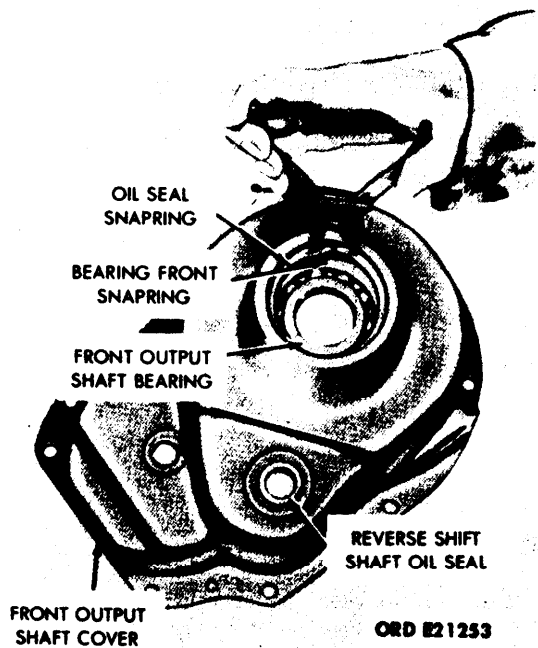

Figure 4-43. Front Output Shaft Cover — Disassembly.
(1) Remove the output shaft oil seal snapping (fig. 4-43). Discard the oil seal. To remove the seal from the cover, place in a press and exert pressure upon the front bearing thrust washer.
(2) Remove the reverse shift shaft oil seal, using a suitable tool, and drive the shift shaft seal from the output shaft cover. (See fig. 4-43.).
- c. Front output shaft cover (fig. 4-43).